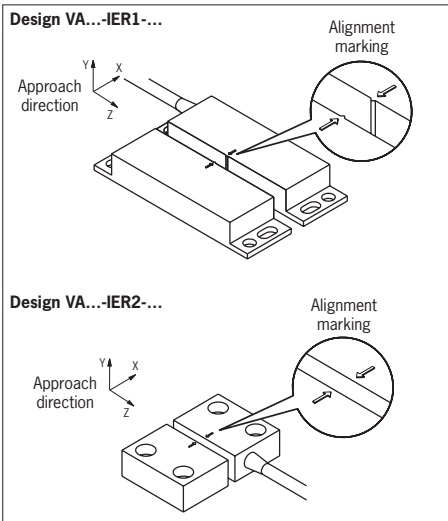

Figure 1: Alignment of read head and actuator
The read head and actuator may be installed in any position. The alignment of the read head and the actuator must be kept in mind (see Figure 1).
- ▶ when the safety guard is closed, the active read head and actuator faces are exactly aligned (see Figure 1)
- ▶ If the approach speed between the read head and the actuator is low, the approach direction Z (see Figure 1) should be avoided.